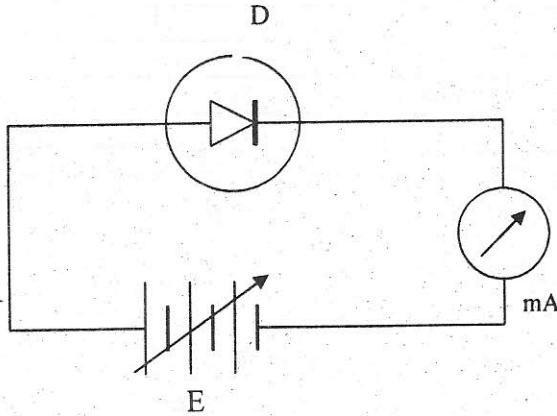

Figure. 8.7 Diode (D) Forward biased.
- 1) Set up the circuit as shown in Fig 8.7 a.